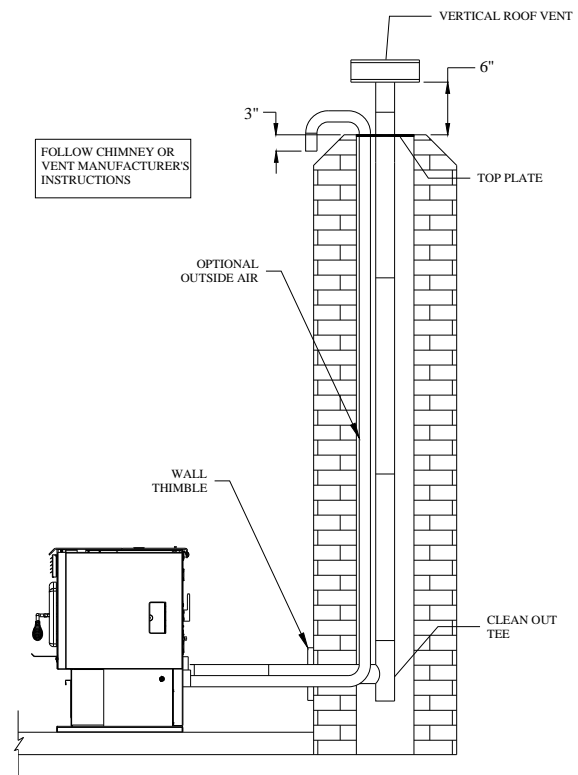

Figure 13
4. Install the tee on the bottom of the vertical pipe system and lower it down the chimney until the center branch of the tee is level with the center of the hole in the masonry, as shown in Figure 13.